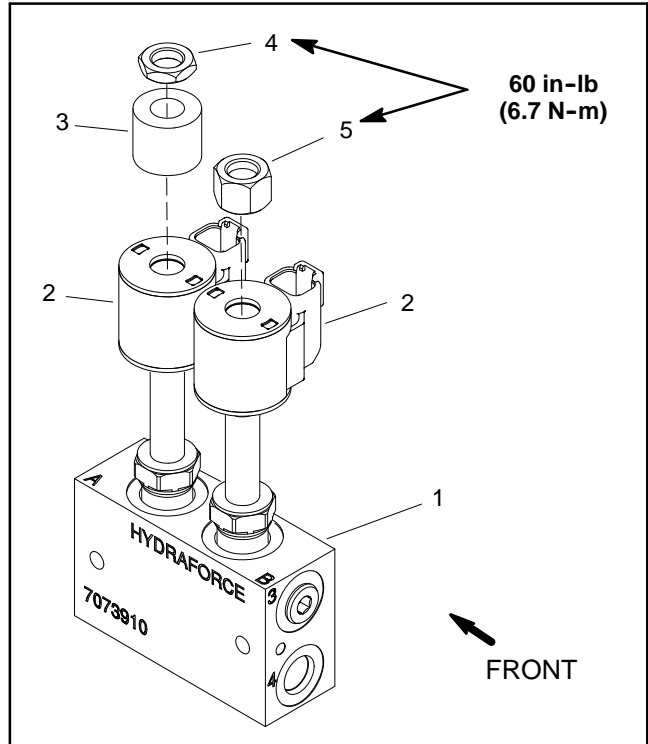
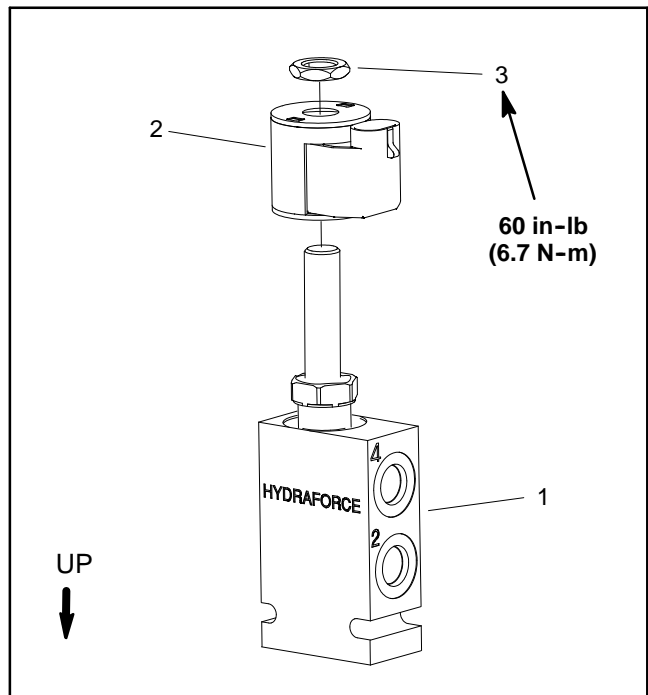

Figure 78
Figure 79
A hydraulic solenoid valve coil on the deck lift manifold (Fig. 78) or steering control manifold (machines with 4WD) (Fig. 79) can be replaced without opening the hydraulic system.
- A. Raise and support operator seat to gain access to deck lift manifold. Refer to Figure 78 for solenoid coil locations on the deck lift manifold.
- B. Raise and support operator seat to gain access to steering control manifold used on 4WD machines. Refer to Figure 79 for solenoid coil location on the steering control manifold.